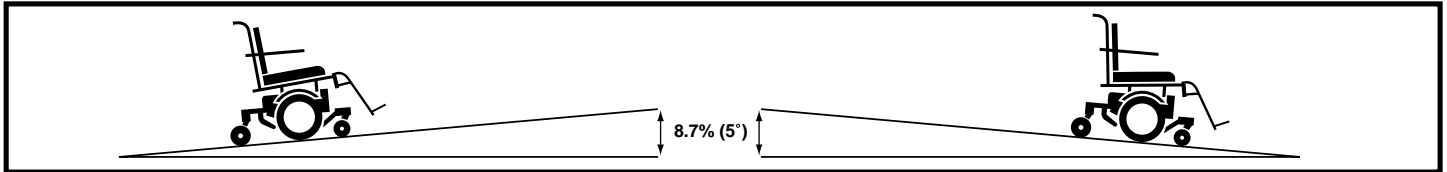

Figure 1. Maximum Safe Slope (Ascending and Descending)
**WARNING! Even though your power chair is capable of climbing slopes greater than those illustrated in figure 1, do not, under any circumstances, exceed the incline guidelines or any other specifications presented in this manual. Doing so could cause instability in your power chair.**
Pride recommends that the maximum slope of an incline you attempt to safely ascend or descend on your power chair does not exceed 8.7 % (5°). See figure 1.